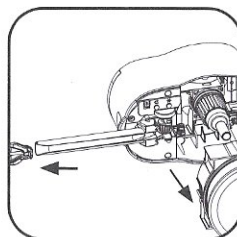

Figure 3
3. Remove the 'Empty / Used' Refill from the dispenser & slide Plastic Handle off the Metal Handle. (Fig. 3)